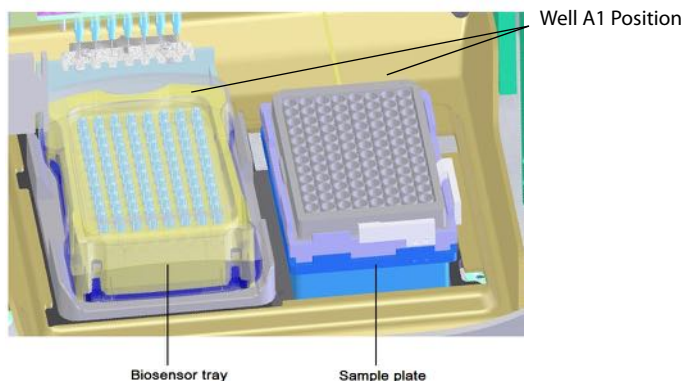

Figure 8-53: Biosensor Stage (left) and Sample Stage (right)
2. Place the biosensor tray on the biosensor stage (left side) so that well A1 is located at the upper right corner (see Figure 8-53).
3. Place the sample plate on the sample stage (right side) so that well A1 is located at the upper right corner (see Figure 8-53).